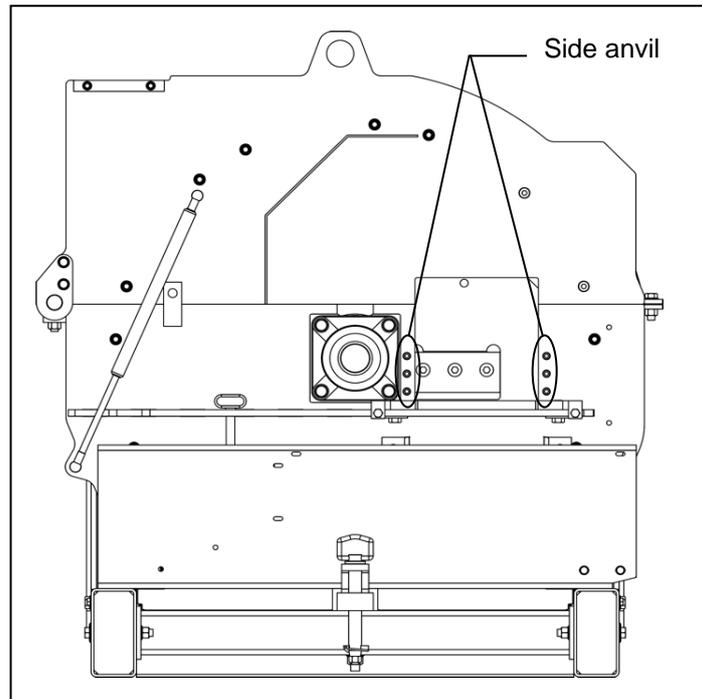

Figure 42: Positioning the side anvil
4. There is now free access to the two side anvils (see Figure 42).